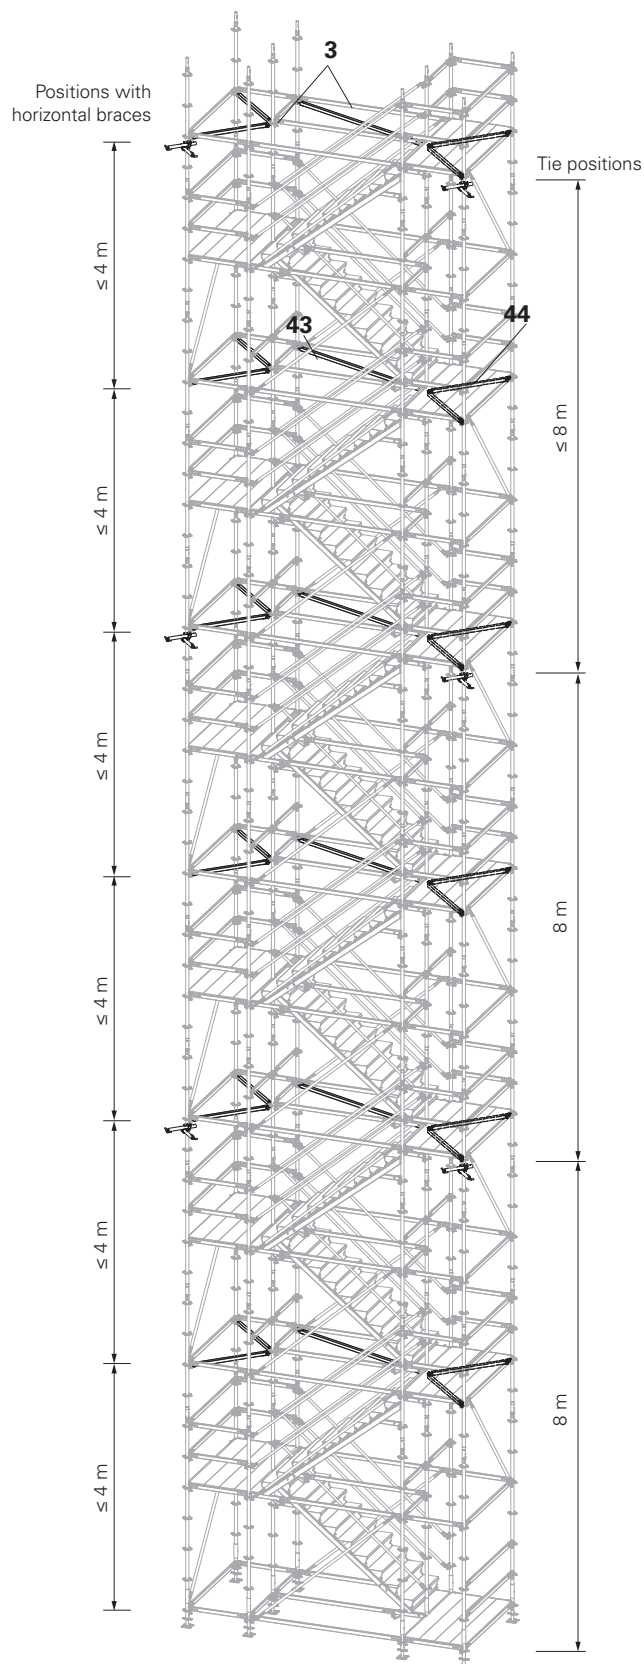

Fig. A3.10
Fig. A3.10 shows the view from the building side.
2. Horizontal Braces UBH (43, 44) every 4.0 m. (Fig. A3.10)
Brace with Horizontal Ledger UH-2 250 **(3)** (instead of Horizontal Ledger UH-2 200 and the Stair Stringers UA). (Fig. A3.10)